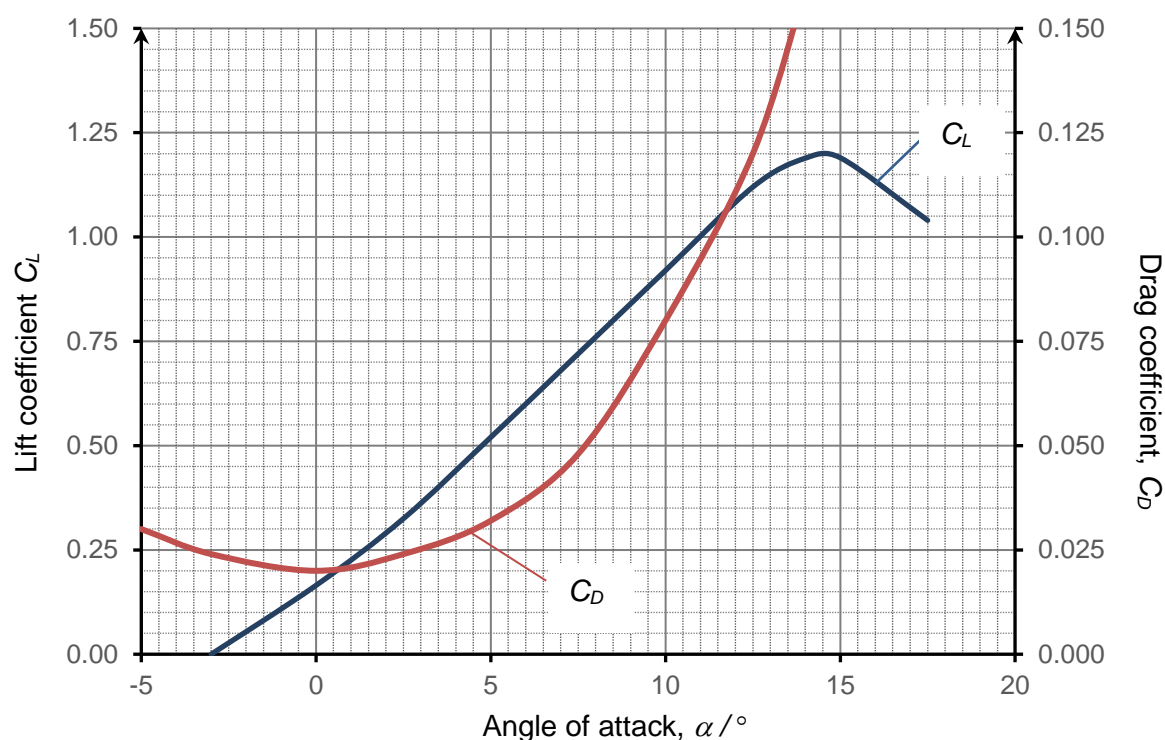
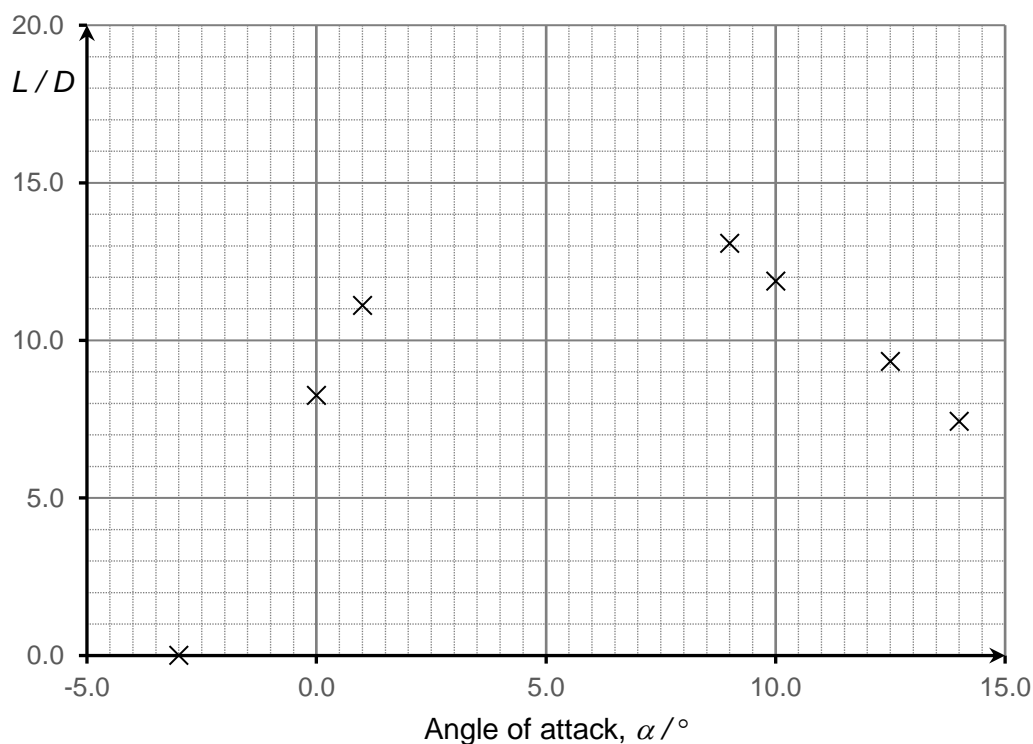

Fig. 7.6
Fig. 7.7
- (e) Both C_L and C_D are normally experimentally determined using a wind tunnel. Fig. 7.6 depicts the graphs of C_L and C_D with against the angle of attack α for a particular aerofoil wing; C_L is on the left axis and C_D is on the right axis. From these graph, the ratio of C_L to C_D can be found. This ratio is equal to the lift to drag ratio (L/D) which gives an indication of the efficiency of the performance of the plane in flight. A graph of some of the data showing the variation of L/D with α is shown in Fig. 7.7.
1. Using Fig. 7.6, determine the lift to drag ratio at this angle of attack for the aerofoil.
2. Plot this point on Fig. 7.7 and sketch the best fit curve. [2]